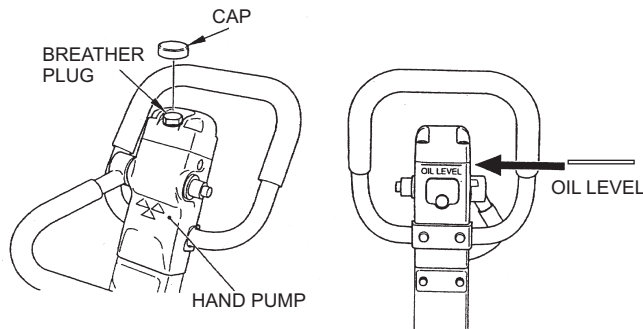

Figure 7. Hydraulic Oil Check
1. With handle bar positioned vertically (storage position), remove the breather cap (Figure 7) from the breather plug.
2. Use a 24 mm wrench and remove breather plug (Figure 7). Visually check to see if hydraulic oil comes up to the oil level line that is etched on the back side of the handle.